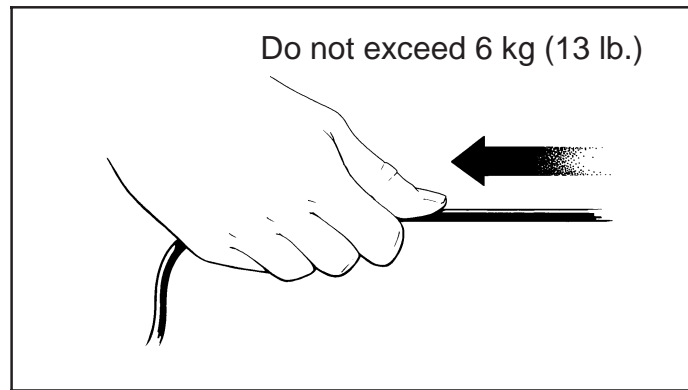

Figure 4
4. The maximum tension which can be applied to the sensor cable must not exceed 6 kg (13 lb.). Tension in excess of this can cause internal cable damage which may not be obvious from the condition of the outer sheath. Refer to Figure 4.